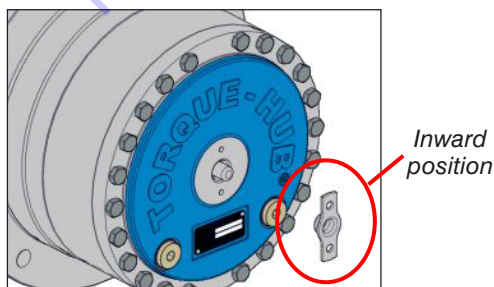

Figure 23 Disengage cap - inward position
- b. Remove disengage cap and rotate to inward position (refer to Figure 23).